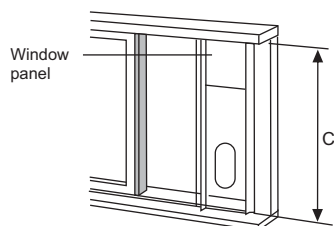

Fig. 13
2. Adjust the length of the slider kit according to the height of the window. Place window slider kit against foam seal (Fig. 13).